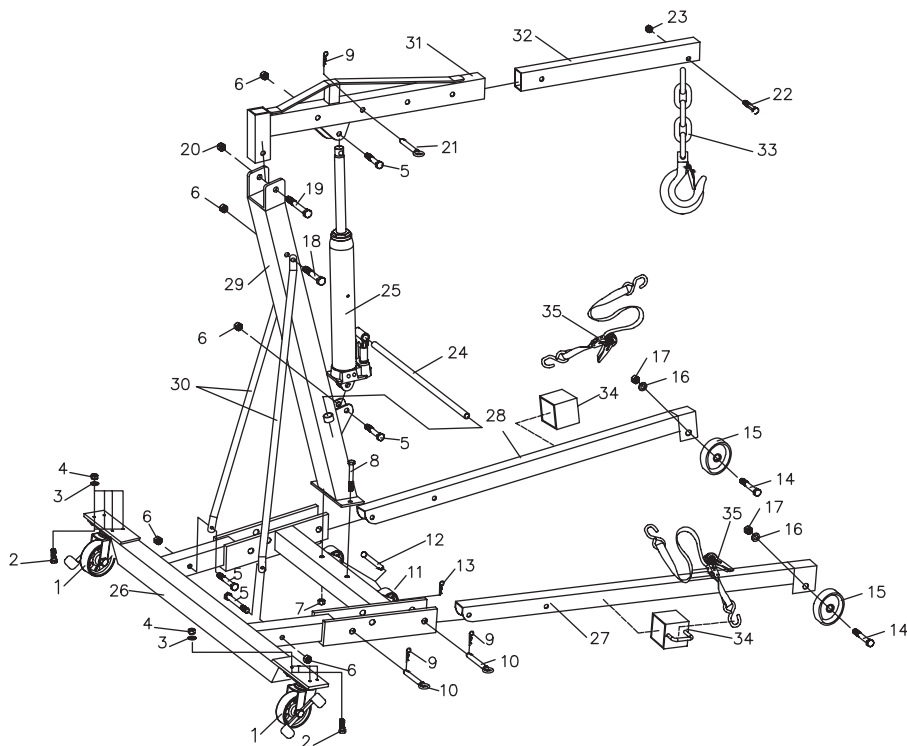

Fig. 3 - Assembly Illustration
- 2. Remove forward most lock pin (Ref. No. 10 in figure 3) from each leg extension.
- 4. Reinstall lock pin (Ref. No. 10 in figure 3) into middle hole on base frame leg connection.